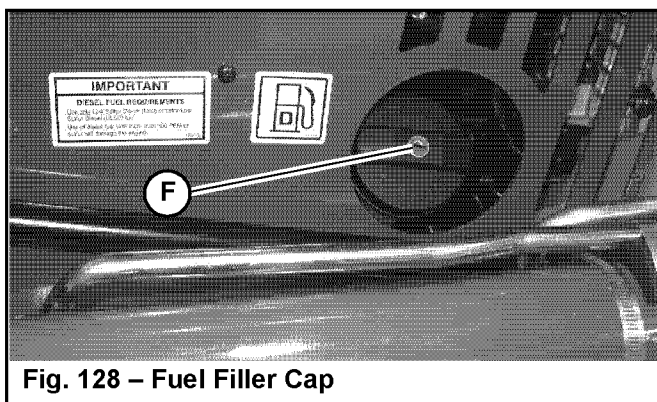

Fig. 128 – Fuel Filler Cap
2. Using the ignition key to unlock fuel cap (F, Fig. 128) and remove the fuel cap from the fuel filler neck.